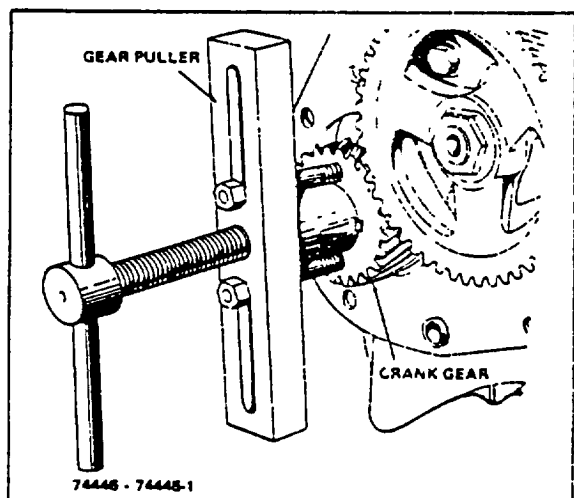

Figure 6-3. Removing Crank Gear (Typical)
26. Remove capscrew and remove pump coupling (Figure 6-3). Pull crank gear from crankshaft (Figure 6-3). The crankshaft gear, which is a press fit on the shaft, requires a puller. Remove key.